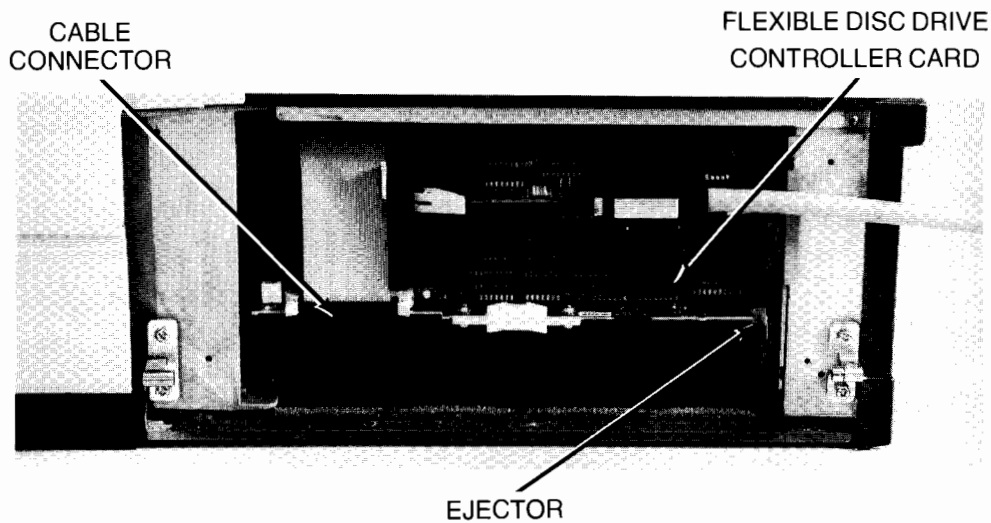

Figure 4-13. Removing Flexible Disc Drive Controller Card
7. Remove cable connector from card (Figure 4-13), unseat card from I/O backplane by pulling out on ejector, and slide card out of slot.